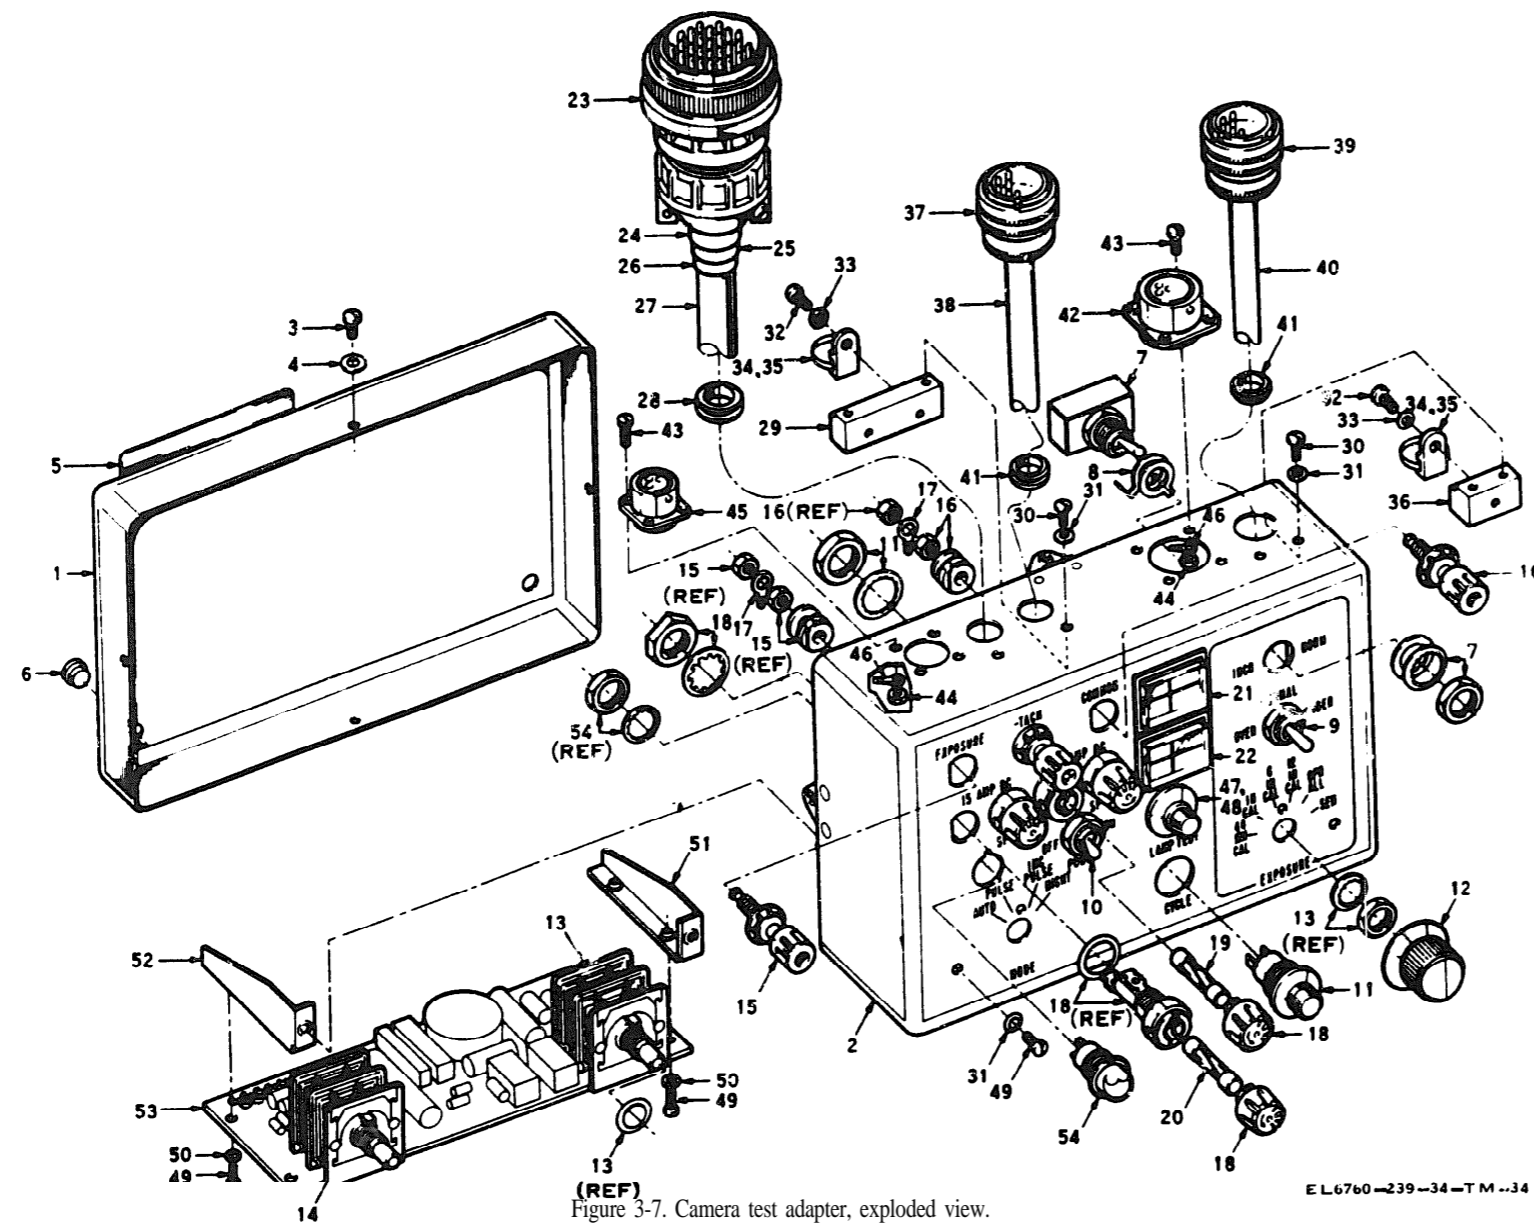

Figure 3-7. Camera test adapter, exploded view.
3-19. Camera Test Adapter DS Replacement Procedures (fig. 3-7)
(1) Perform steps in a(1) and (2) above.
(2) Open the tie wrap (35, fig. 3-7) on the clamp (34) then remove the cable harness from the clamp.
(3) Remove the cable by pulling through grommet (28) on top of the front cover.
(4) Replace the cable by reversing steps (2) and (3) above.
Key to fig. 3-7.